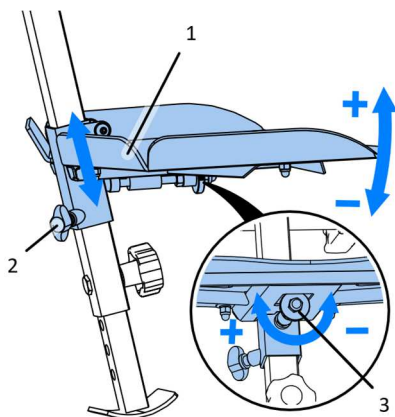

Fig. 28
7.13 Footrest height and angle adjustment Fig. 28